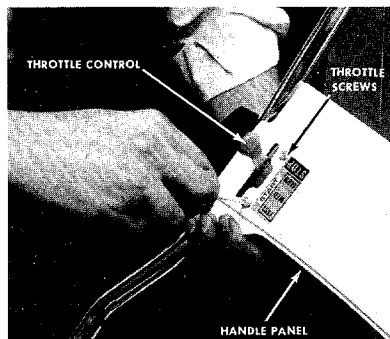

FIGURE 5. THROTTLE CONTROL ASSEMBLY
7. Place the throttle control in the handle panel and assemble it with the two throttle screws using a screwdriver. See figure 5.